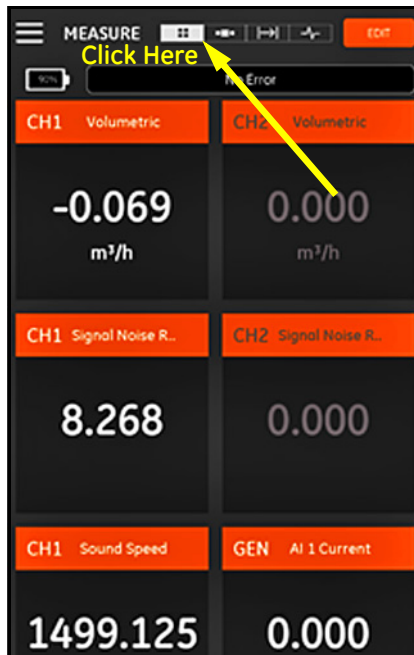

Figure 91: Multiple Measurement Screen
In *Figure 91* below, note that **CH1** has been turned **On** and **CH2** has been turned **Off** in the **PROGRAM** menu. Also, no **AI** source is connected to the **General** channel, because the value is zero.
The default measurement screen is a *multi-measurement* format, which means that all measurements which have been set up are displayed on one page with scrolling capability. An indication of this display type is the highlighted  icon at the top of the screen (see *Figure 91 on page 94*). Note the following:
- An *Error Status* box is located just above the measurement display section of the screen. If there are no system errors, **No Error** is displayed (see *Figure 91 on page 94*). However, if a system error does occur, the error information is displayed in this location with a flashing red background.